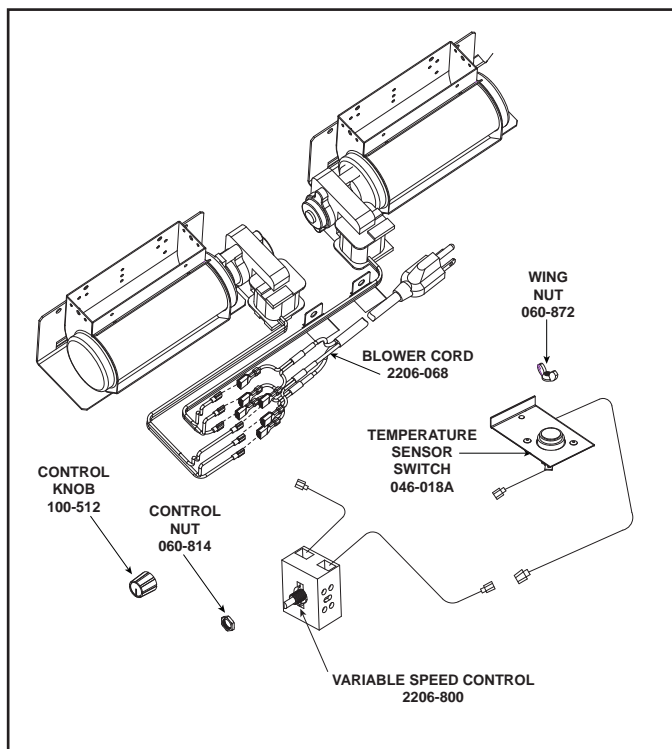
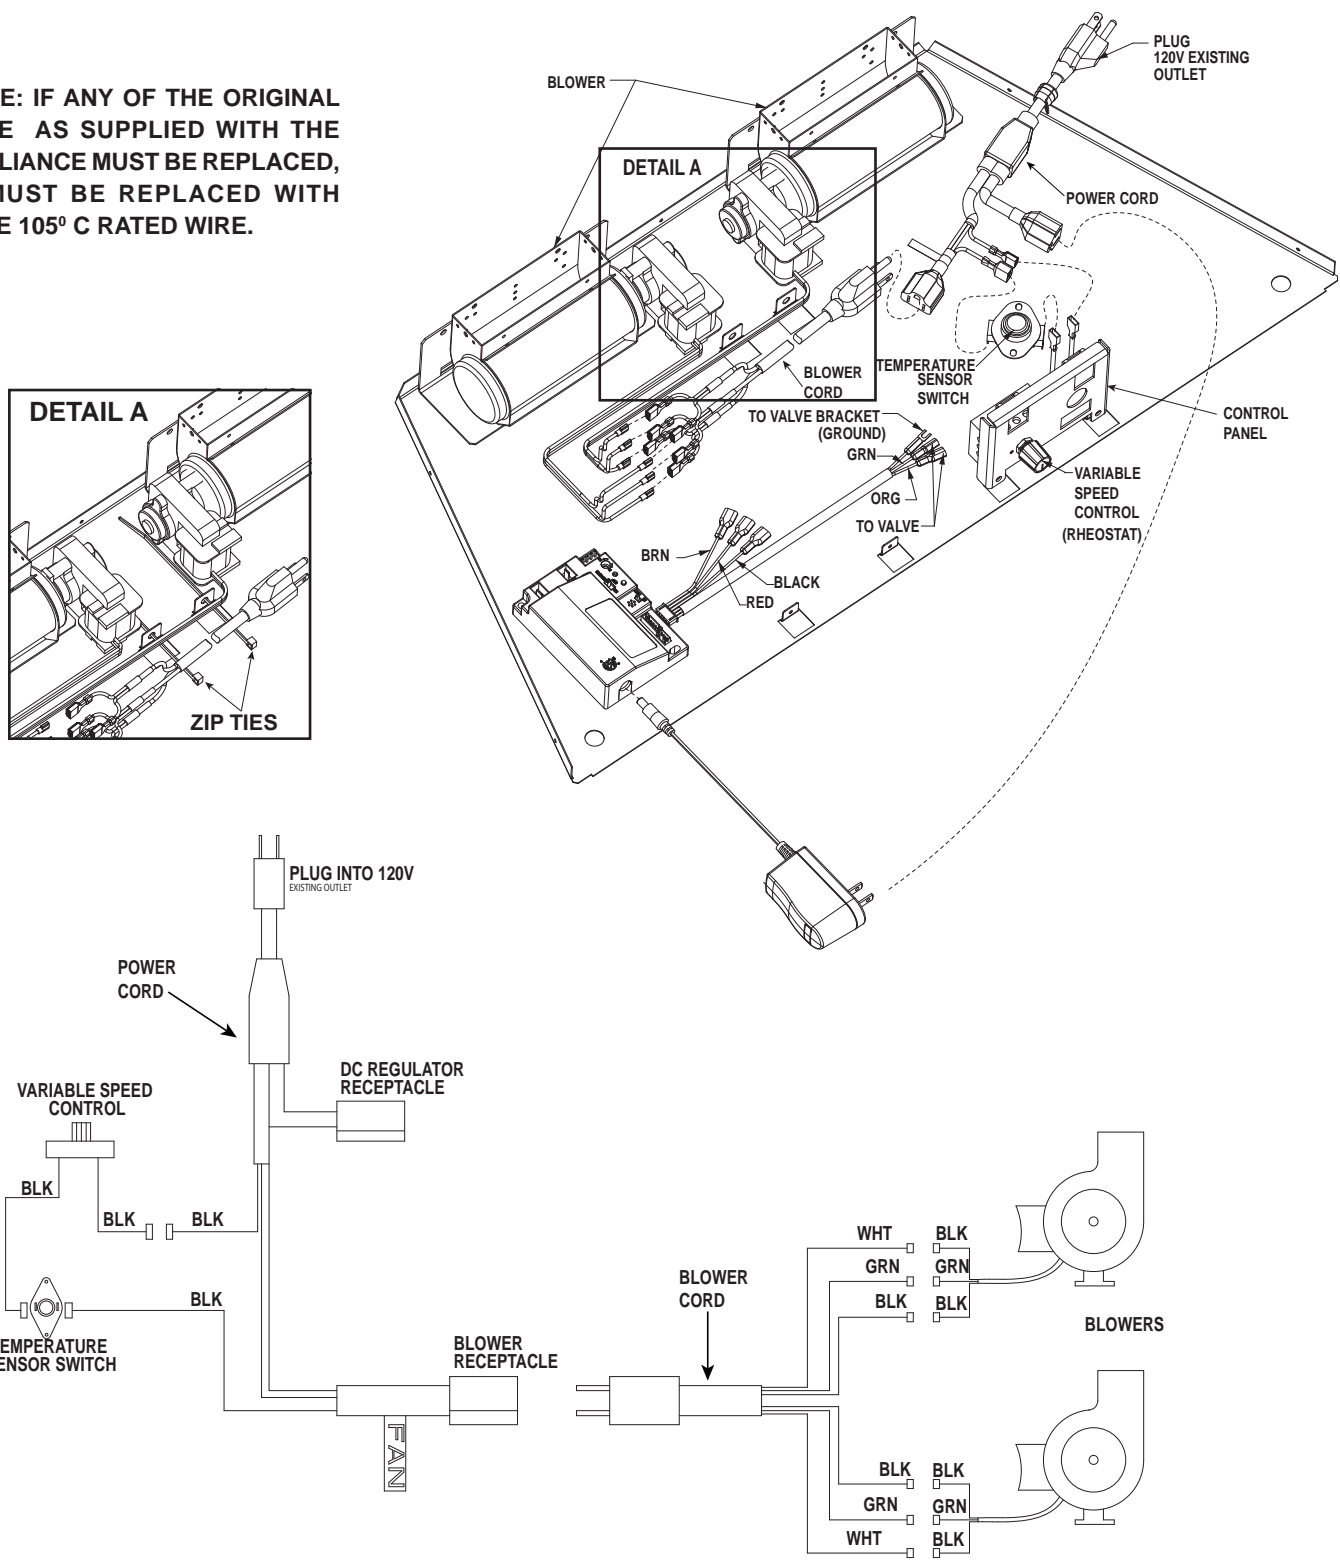

Figure 1
Figure 6. Fan Wiring Diagram - Metal Insert Without RC200/RC300
Compare CONTENTS OF CARTON in Figure 1 with the actual parts received. If any parts are missing or damaged, contact your dealer before starting installation. Do not install a damaged blower kit.
5. Plug the blower cord into the blower receptacle. Connect the white, black, and green spade connectors from blower cord harness to each blower. See Figure 1 and Figure 6.
6. Bundle and zip tie any wires to keep them from contacting the fan blades. See Figure 6, Detail A.
3. Connect the variable speed control and the temperature sensor switch to the power cord. See Figure 6.
4. Gather the loose wires underneath the appliance and use the zip ties to restrain them and keep them away from the blower wheel (fan blades). See Figure 6, Detail A.